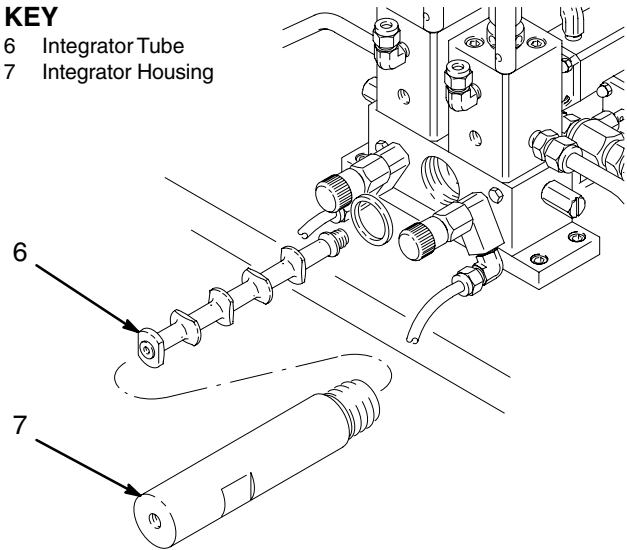

Fig. 9
- Disconnect the integrator assembly. Clean and inspect it, and ensure that the small distributor holes in the integrator tube (6) are all open. See Fig. 9. The integrator may need cleaning more or less frequently, depending on the fluid being mixed.